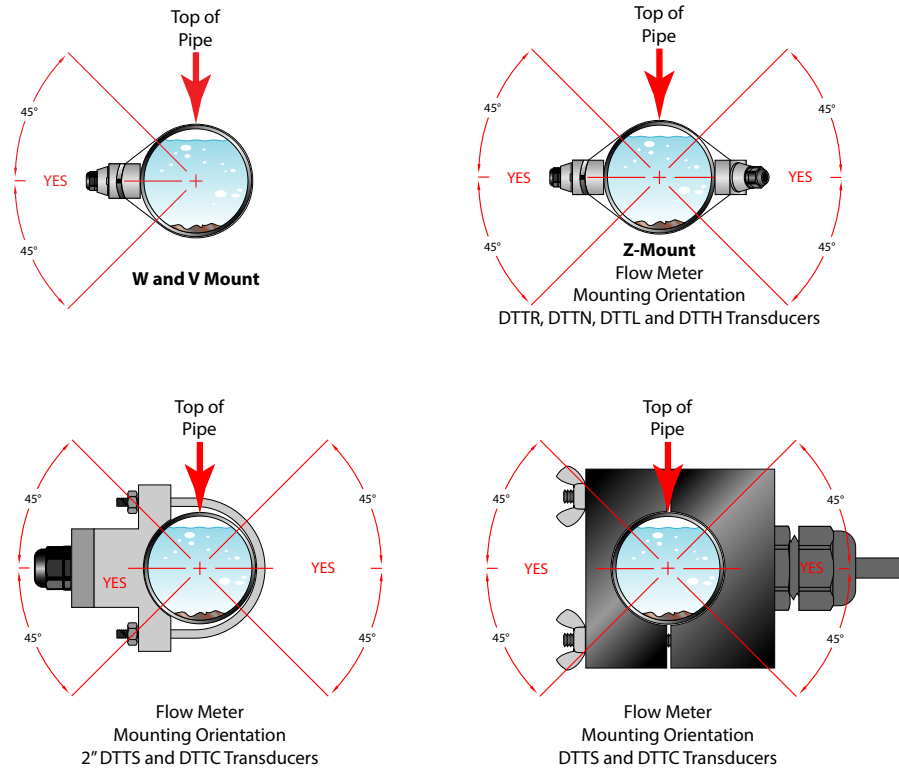

Figure 9: Transducer orientation for horizontal pipes
2. Orient and space the DTTR, DTTN, DTTL and DTTH transducers on the pipe to provide optimum reliability and performance. On horizontal pipes, when Z-Mount is required, mount the transducers 180 radial degrees from one another and at least 45 degrees from the top-dead-center and bottom-dead-center of the pipe. See Figure 9. Also see “Z-Mount Configuration” on page 22. On vertical pipes, the orientation is not critical.
3. Crease the paper at the fold line. Mark the crease. Place a mark on the pipe where one of the transducers will be located. See *Figure 9* for acceptable radial orientations. Wrap the template back around the pipe, placing the beginning of the paper and one corner in the location of the mark. Move to the other side of the pipe and mark the pipe at the ends of the crease. Measure from the end of the crease (directly across the pipe from the first transducer location) the dimension derived in *“Select a Mounting Configuration”* on page 17. Mark this location on the pipe.